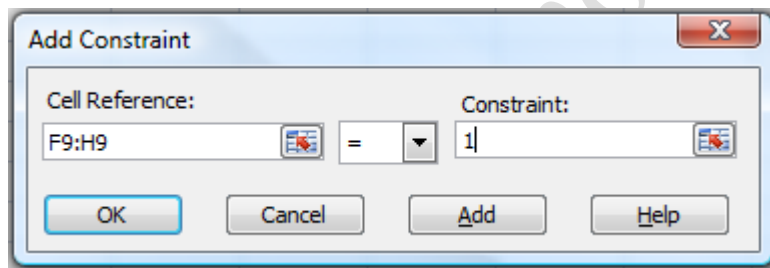

Figure 11.25. The total for each contract must be 1.
17. Next to the Subject to the Constraints box click the Add button. The first constraint for the first business rule—shown in pink—is to limit the contracts so that only one bid is accepted for each of the contracts. In the Add Constraint dialog box, in the Cell Reference box type **F9:H9**. In the middle box, click the arrow and then click **=**. In the Constraint box type **1**. Compare your dialog box to Figure 11.25.